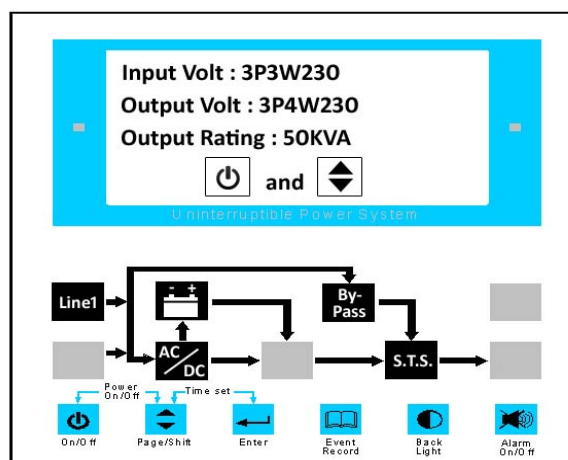

Figure 14 : LCD and Indicators - 2
5. Switch ON 「8. Mains Input N.F.B.」 (see Figure 4). The indicators will light and LCD will show as Figure 14.
6. Switch ON 「9. Bypass (Reserve) Input N.F.B.」 (see Figure 4). The indicators and LCD remain as Figure 14.
7. Switch ON 「 11. Output N.F.B. 」 (see Figure 4). **Be careful that the output has power from the utility AC power now.** The indicators and LCD remain as Figure 14.